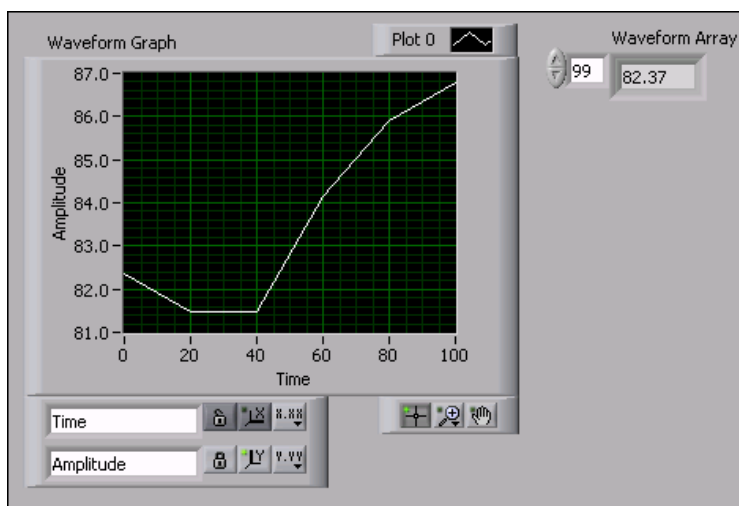

Figure 7.16
1. Open a blank VI and build the front panel shown in Figure 7.16.